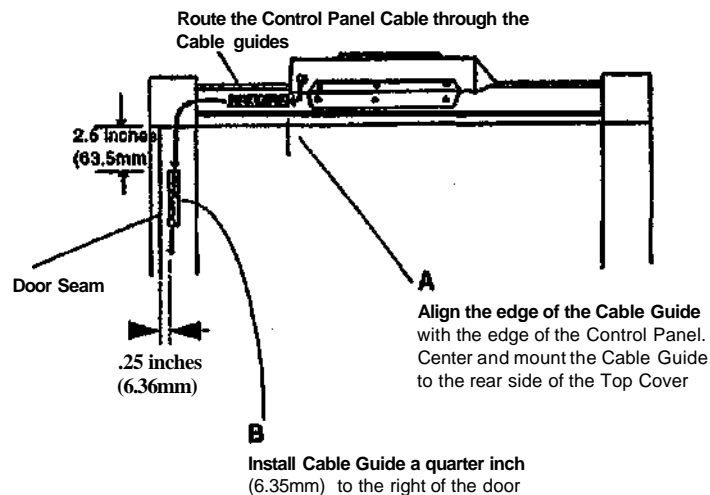

Figure 7 Rear of Scanner showing positioning of Cable Guides
- d. (Figure 7): Install the Cable Guides and route the Control Panel Cable.